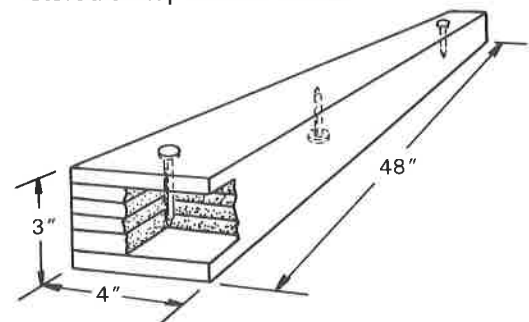

Fig. 2
- 4.4.2 **Construction** — Figure 2 shows a convenient riser which may be inexpensively constructed